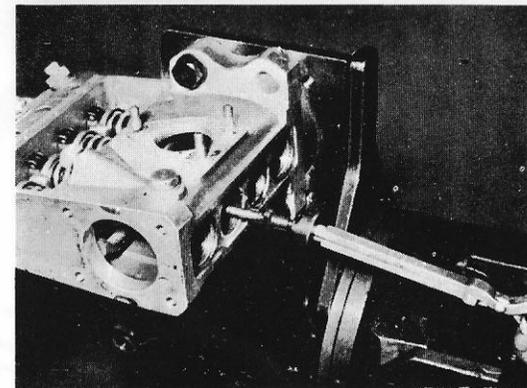

Fig. 9-40
2) Pulling out the plunger clamp permits removal of the lower spring seat together with the plunger. Place the plunger in clean kerosene to keep its number legible. (See Fig. 9-40)